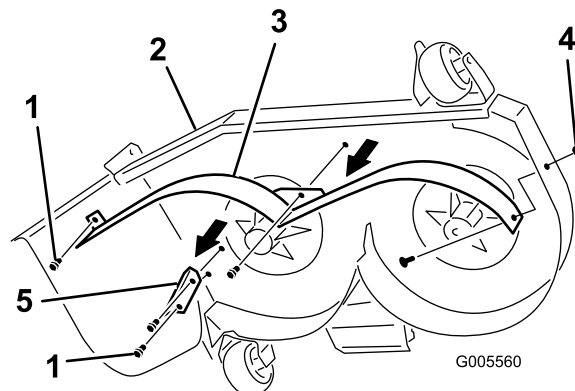

Figure 2
2. Remove the bolts, washers and flange nuts holding the front baffle in place (Figure 2).
3. Remove the bolts and flange nuts holding the discharge baffle in place (Figure 2).